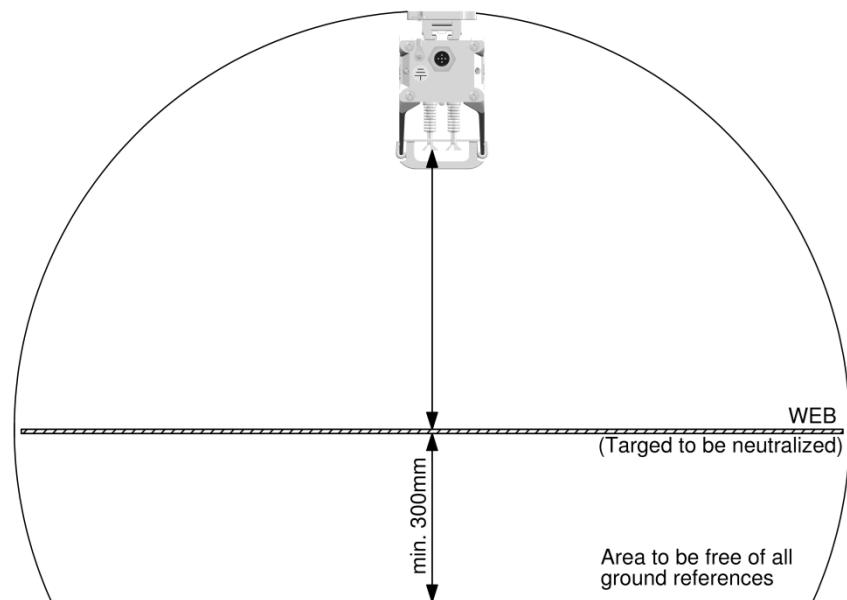

Figure 5
- For optimum results, the anti-static bar must be fitted as per Figure 5.